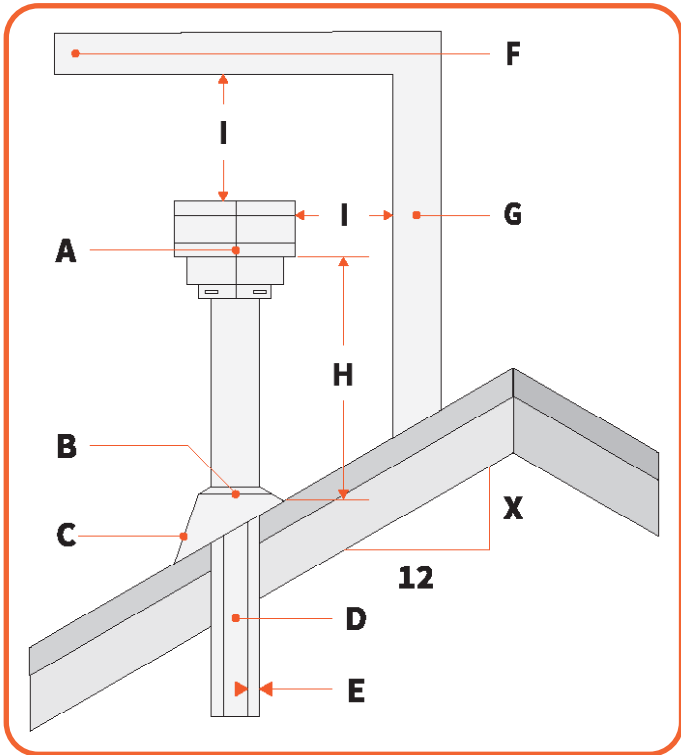
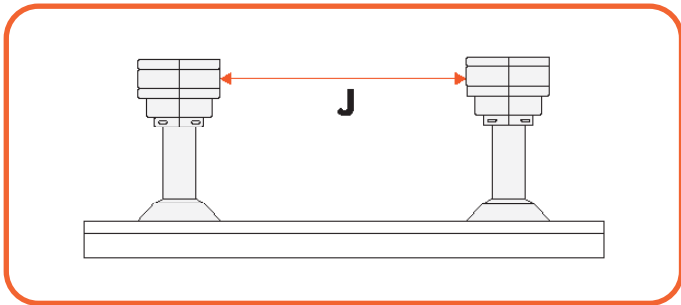

Figure 10.1 - Vertical Vent Termination Clearances
Figure 10.2 - Multiple termination clearance
10.1 Vertical Terminations - clearances and requirements (Figure 10.1 & Figure 10.2)